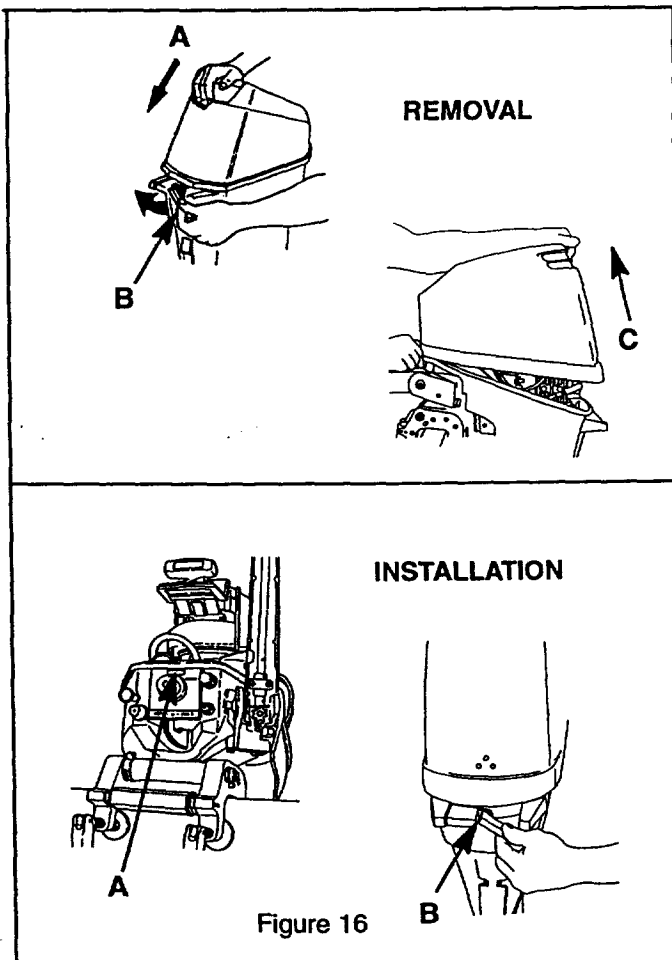

Figure 16
TO REMOVE MOTOR COWL (FIG. 16)
- Push down hard on cowl (A) and turn cowl release lever (B) on rear of motor (Figure 16).
- Lift cowl up in rear (C) and move cowl to front to free it from cowl retainer. Lift cowl up and off.
TO INSTALL MOTOR COWL (FIG. 16)
- Place cowl retainer into slot (A) in front of motor cowl (Figure 16).
- Push down and turn release lever (B) to lock cowl in place.